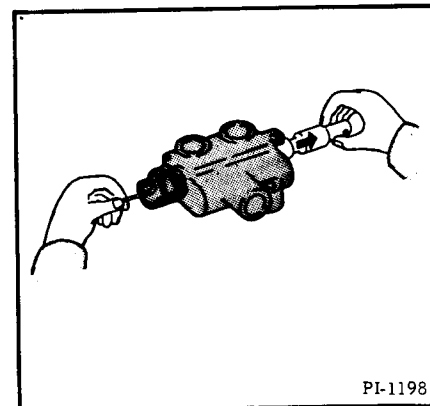
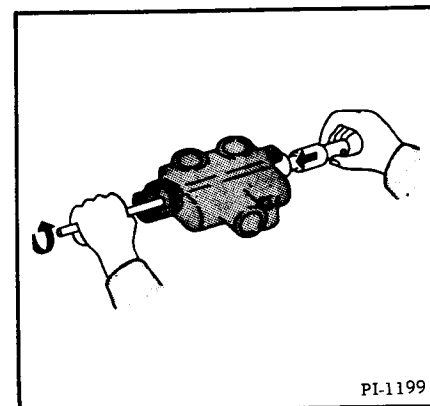

Fig. 15 Removing Back Seal
Fig. 16 Installing New Back Seal
Pull the spool out of the housing from the front of the valve, being very careful not to damage either the spool or housing (Fig. 15).
(4) Remove the back seal (Fig. 15).
(5) Clean both seal grooves thoroughly.
(6) Replace the spool, through the front of the housing, being sure that the end having the spring assembly mounting (tapped) hole enters the housing first (Fig. 16). Push the spool into the valve until the spool end touches the back seal groove. Insert a new seal in the back groove, being careful that the "U" cup of the seal is placed in toward the valve body. It will be very helpful to pinch one side of the seal, causing the seal to bend into a shape slightly smaller than the seal groove in the valve. When the seal has been properly placed in the seal groove, straighten the seal by running a smooth rod around the exposed surface of the seal until you have a perfect fit (Fig. 16). To check this, run your finger around the exposed edge of the seal. You should have a smooth perfect fit.